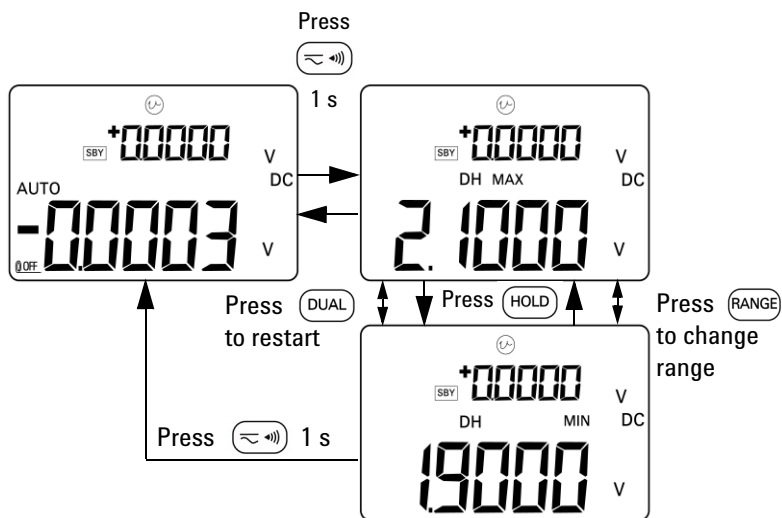

Figure 3-10 1 ms peak hold mode
- 2 Press  to show the peak+ or peak- value after activating the peak mode. The **DH MAX** annunciator indicates the peak+ value while the **DH MIN** annunciator indicates the peak- value. See Figure 3-10 on page 64.